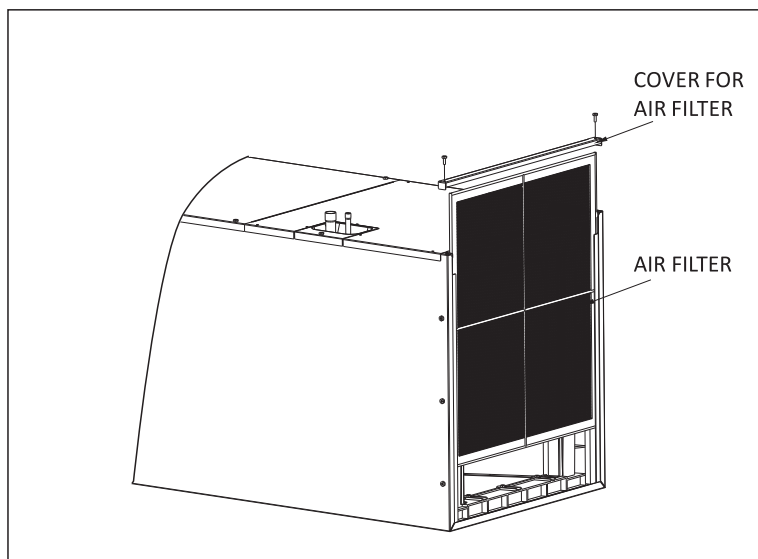

Fig. 6 EXTERNAL FILTER BASE
1. Tear down the two bolts marked A and B, remove the cover for air filter (Refer to **Fig. 6**).